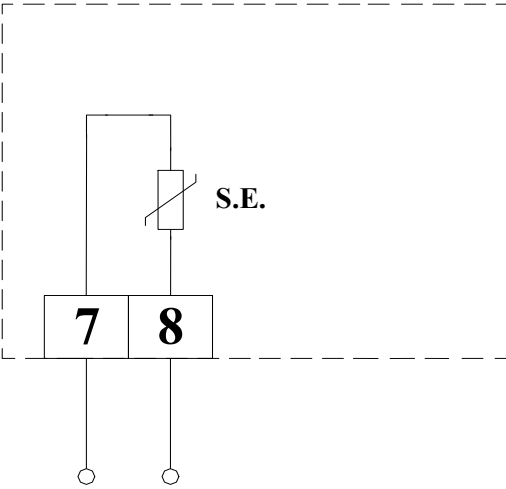

Fig. 2: Bekötési diagram
3. Make electrical wirings according to the diagram of Fig. 2.